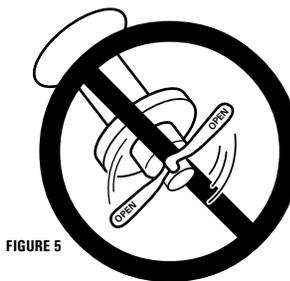

FIGURE 5
DO NOT TIGHTEN THE QUICK RELEASE MECHANISM BY USING THE QUICK RELEASE LEVER LIKE A WING NUT (FIG 5). OVER-TIGHTENING THE QUICK RELEASE MECHANISM MAY CAUSE DAMAGE TO THE QUICK RELEASE ASSEMBLY.
B. With the quick release lever properly adjusted and closed, it will not be possible to rotate the quick release lever in a circular motion parallel to the wheel as pictured in figure 5.